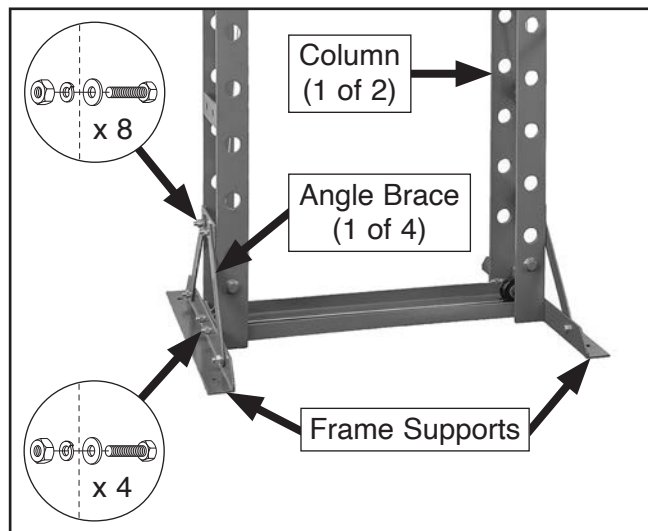

Figure 10. Angle braces attached to frame supports and columns (bed removed for clarity).
12. Attach (2) frame supports to columns using (4) M12-1.75 x 35 hex bolts, 12mm flat washers, 12mm lock washers, and M12-1.75 hex nuts (see **Figure 10**). Do not fully tighten fasteners at this time.
13. Attach (4) angle braces to frame supports and columns using (8) M12-1.75 x 35 hex bolts, 12mm flat washers, 12mm lock washers, and M12-1.75 hex nuts (see **Figure 10**). Do not fully tighten fasteners at this time.